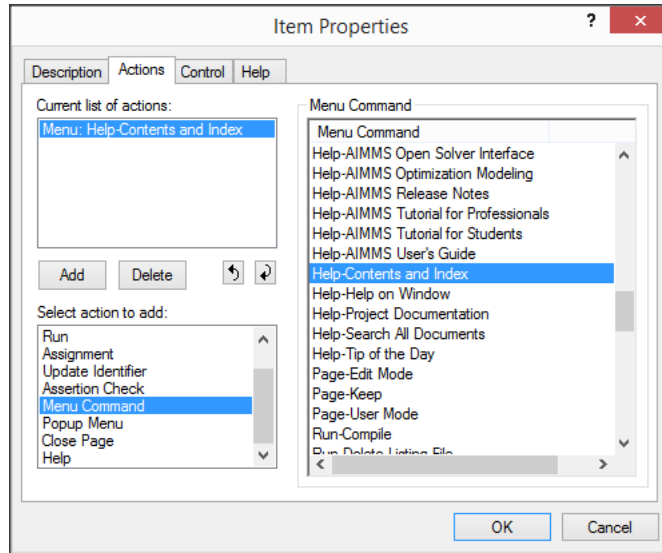

Figure 13.13: The **Action** tab of the **Menu Properties** dialog box
- ▶ select the 'Help-Contents and Index' entry (see Figure 13.13), and